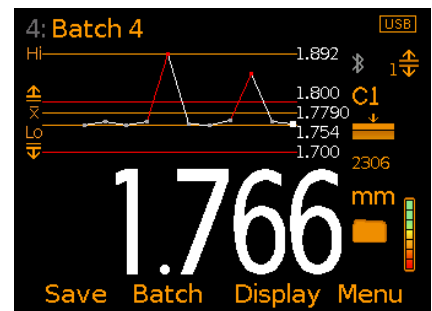

Figure 8: Run Chart & Readings
- **Run Chart - Model T (Figure 8);** A line trend graph of the last 20 measurements which is updated automatically after each reading.